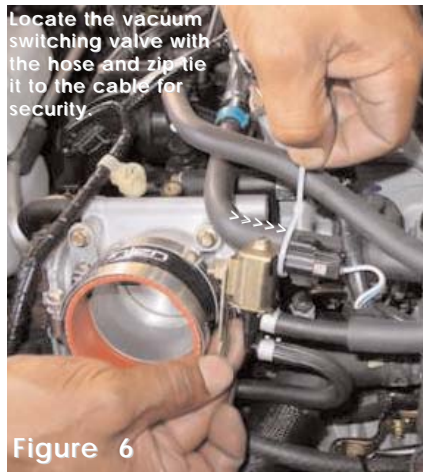

Figure 6
- 5- Use the zip tie supplied in this kit to secure the vacuum switching valve in one place, this will also avoid the **VSV** from coming into contact with any moving objects. (See figs. 6 & 7)